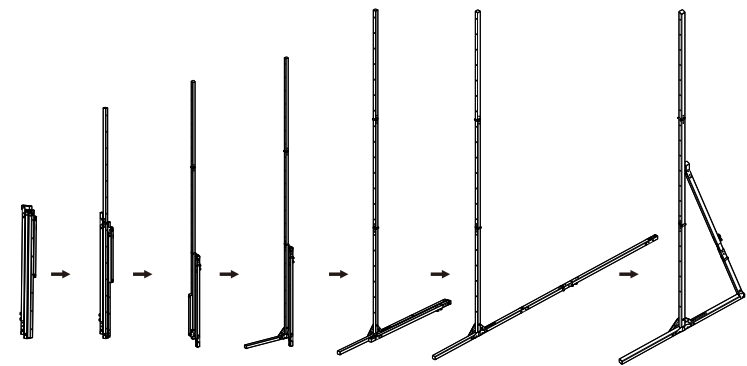

Figure 15
1. Unpack left and right frame legs and extend. Put all joints in place and fully outspread the corner link rod ( Figure 15 ).